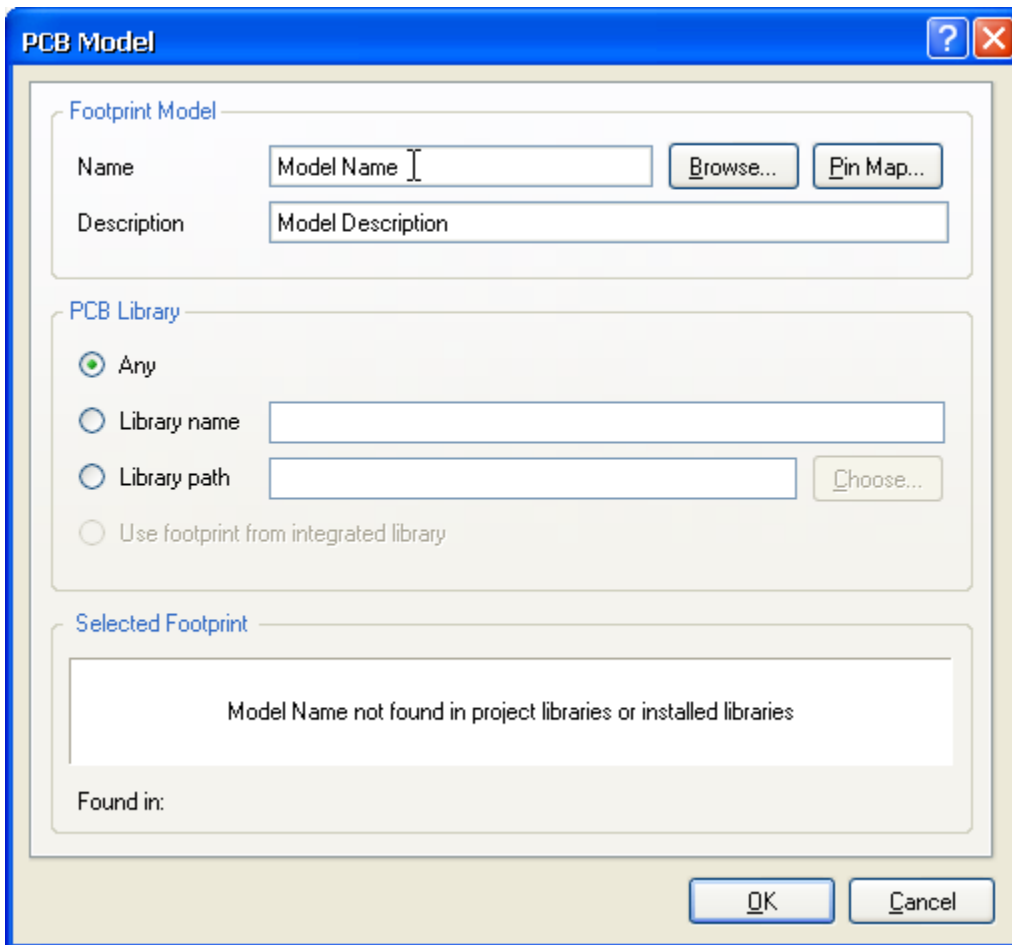
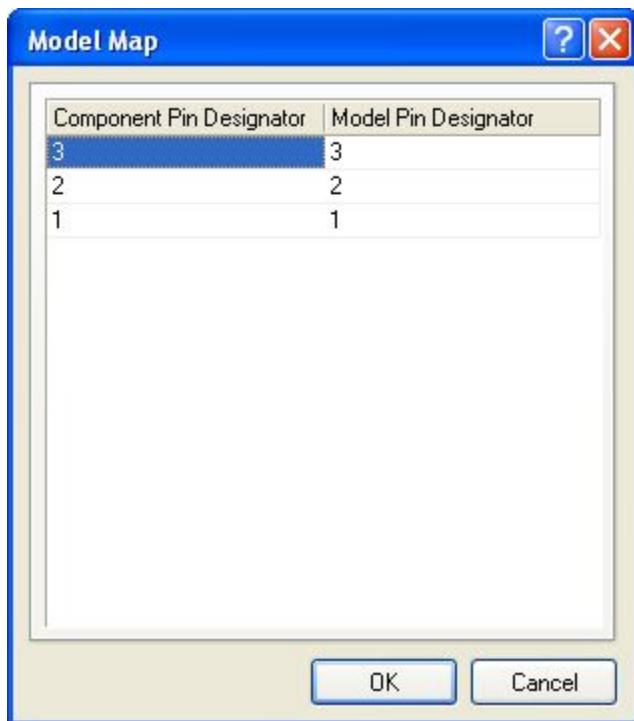

Figure 14. Assign PCB models to schematic components
Figure 17a. the Pin - Pad mapping for the model .
2. The *PCB Model* dialog (Figure 14) displays.
10. After you added the model it is a good idea to check the PIN - PAD mapping. Open the properties for the model to see the PCB Model properties, Figure 14. Press the Button **Pin Map** to open the Window Model Map. Figure 17a. Check and if necessary modify the mapping for the Pin - Pad pairs.